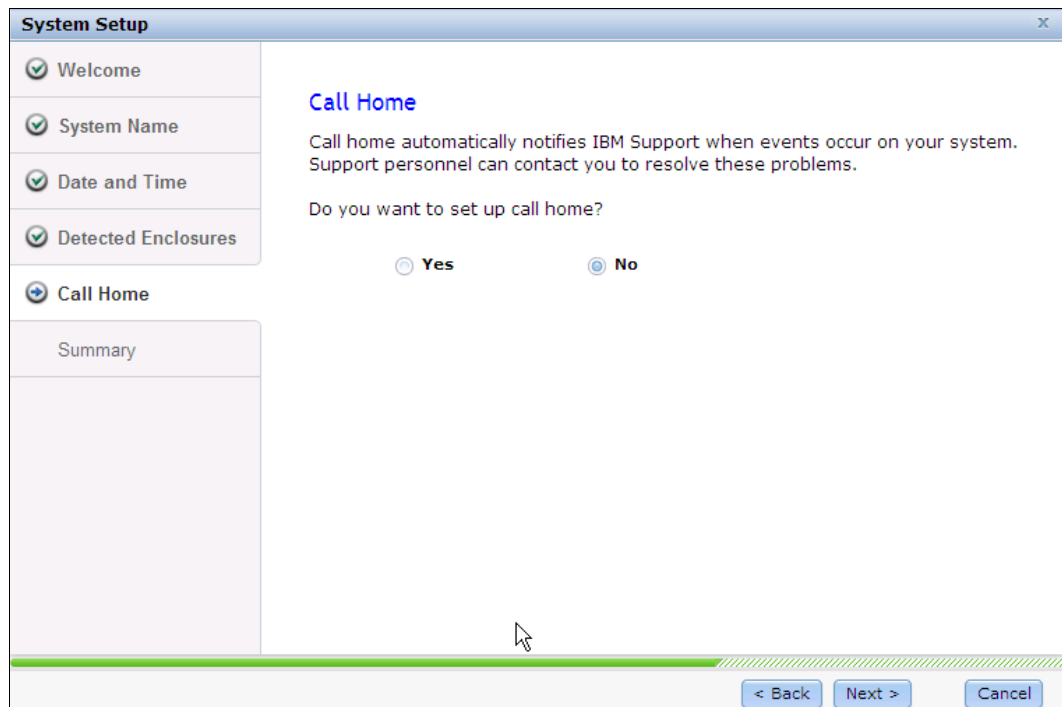

Figure 2-27 System setup - Call Home
1. Click **Call Home** as shown in Figure 2-27 on page 51.